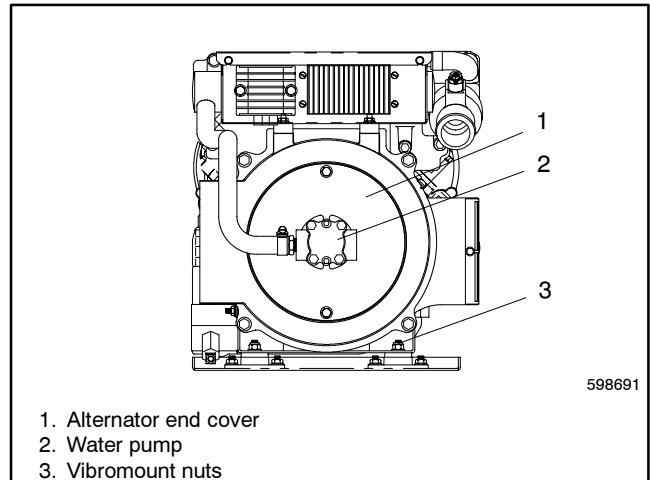

Figure 9-1 Alternator end cover
13. Remove the alternator coverplate. See Figure 9-1.
16. Remove the generator side vibromount nuts. See Figure 9-1.